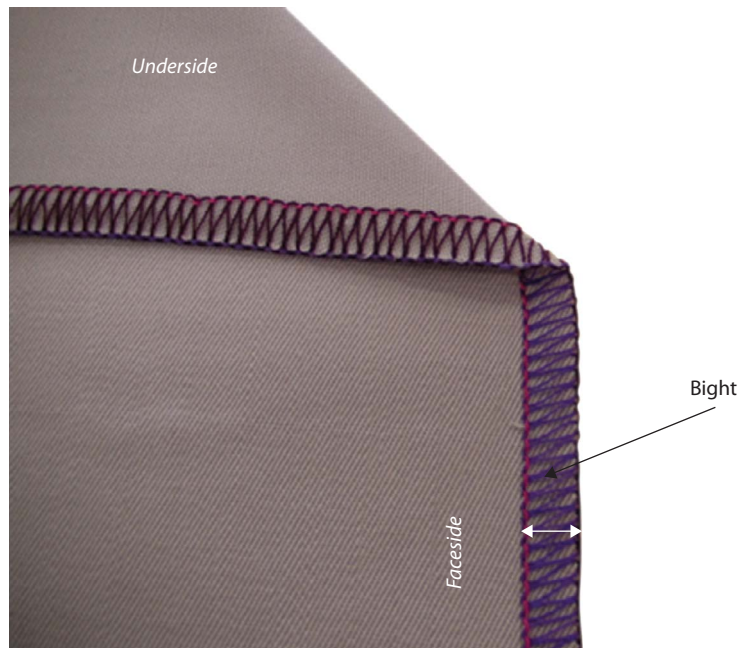

Figure 8 Three Thread Overedge (504).
There are three types of stitch within the Overedge classification. The **Three Thread Overedge** stitch (504), as shown in Figure 8, is used for neatening the edges of woven fabrics and joining seams on garments made